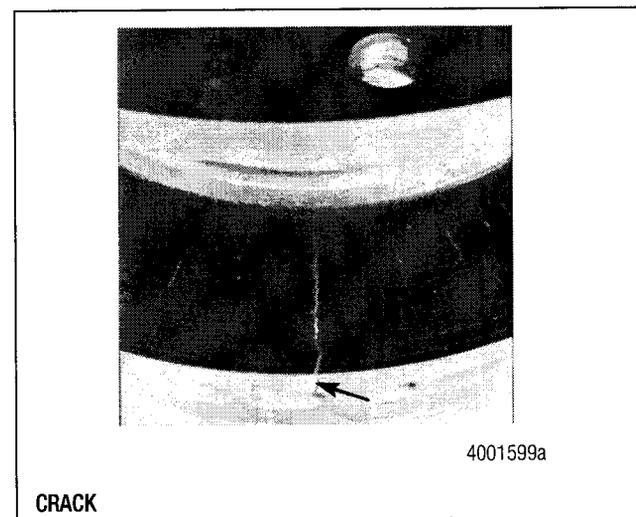

Figure 7
- Cracks in the rotor that extend 25% into the thickness of the outer edge of the rotor. Figure 7.